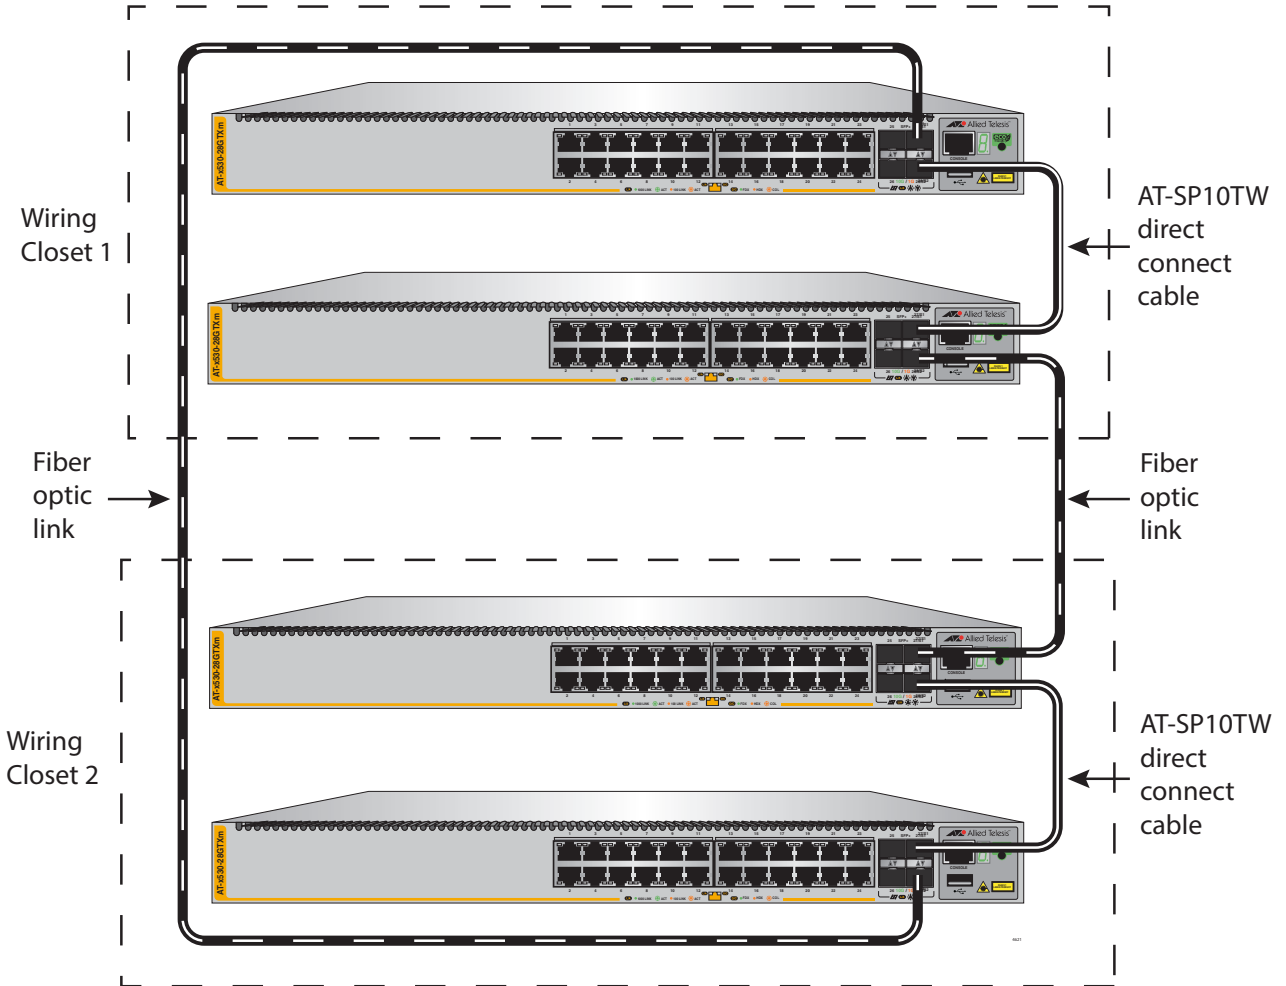

Figure 15. 10 Gbps Stack Trunk with Both Fiber Optic and AT-SP10TW Direct Connect Cables
- ❑ A stack trunk can have fiber optic or AT-SP10TW direct connect cables in the same stack. See Figure 15.
10 Gbps stack trunks can have both fiber optic transceivers and AT-SP10TW direct attach cables as shown in Figure 15. For example, a primary use-case would be a stack of four devices split between two buildings.